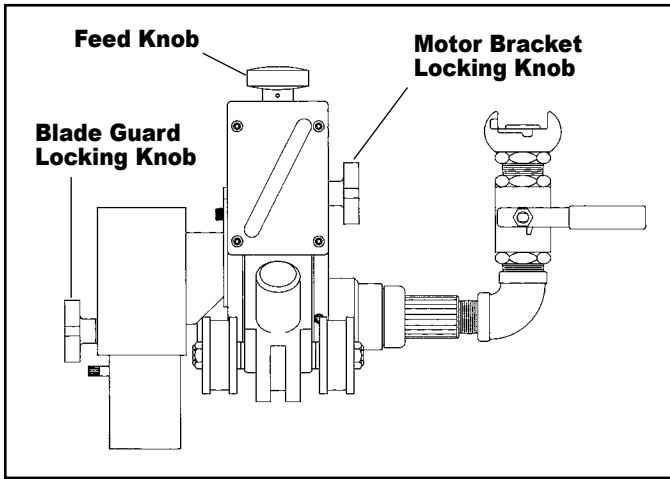

FIG. 4
1. Loosen motor bracket locking knob. (Fig. 4)
2. Retract motor bracket to uppermost position, by turning feed knob counterclockwise. (Fig. 4)
2. Turn cutter feed knob clockwise. (Fig.4) Lower motor and cutter close to, but not touching the pipe. Motor bracket locking knob should be tight, yet allow the bracket to slide.
- 2.* Knowing the thickness of pipe to be cut, turn the feed knob clockwise, (Fig. 4) until the pointer indicates the desired depth of cutter. Allow at least 1/4" of blade beyond depth of cut.
*Exception to this would be if the bevel cutter was being used for plastic, then the cutter would be engaged until the bevel cutter began cutting. At this point the depth gage pointer could be used to determine amount of bevel. Full engagement produces a 15/16" bevel. (Fig. 4)
3. Tighten motor bracket locking knob. (Fig. 4)
4. Tighten blade guard locking knob approximately 1/8" from pipe. (Fig. 4)